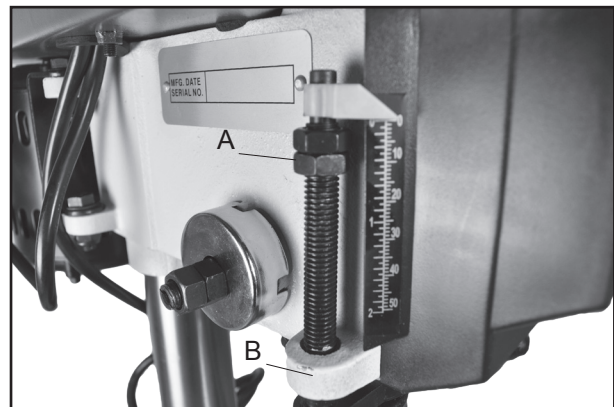

Fig.07
7. Depth Stop: The depth stop and scale are found on the left side of the switch box. To adjust, lower the drill chuck until pointer shows desired depth on the scale. Loosen the lower nut on the threaded shaft (A-Fig.07) until it bottoms out on the head casting (B-Fig.07). Tighten upper nut against the lower nut to retain the adjustment.